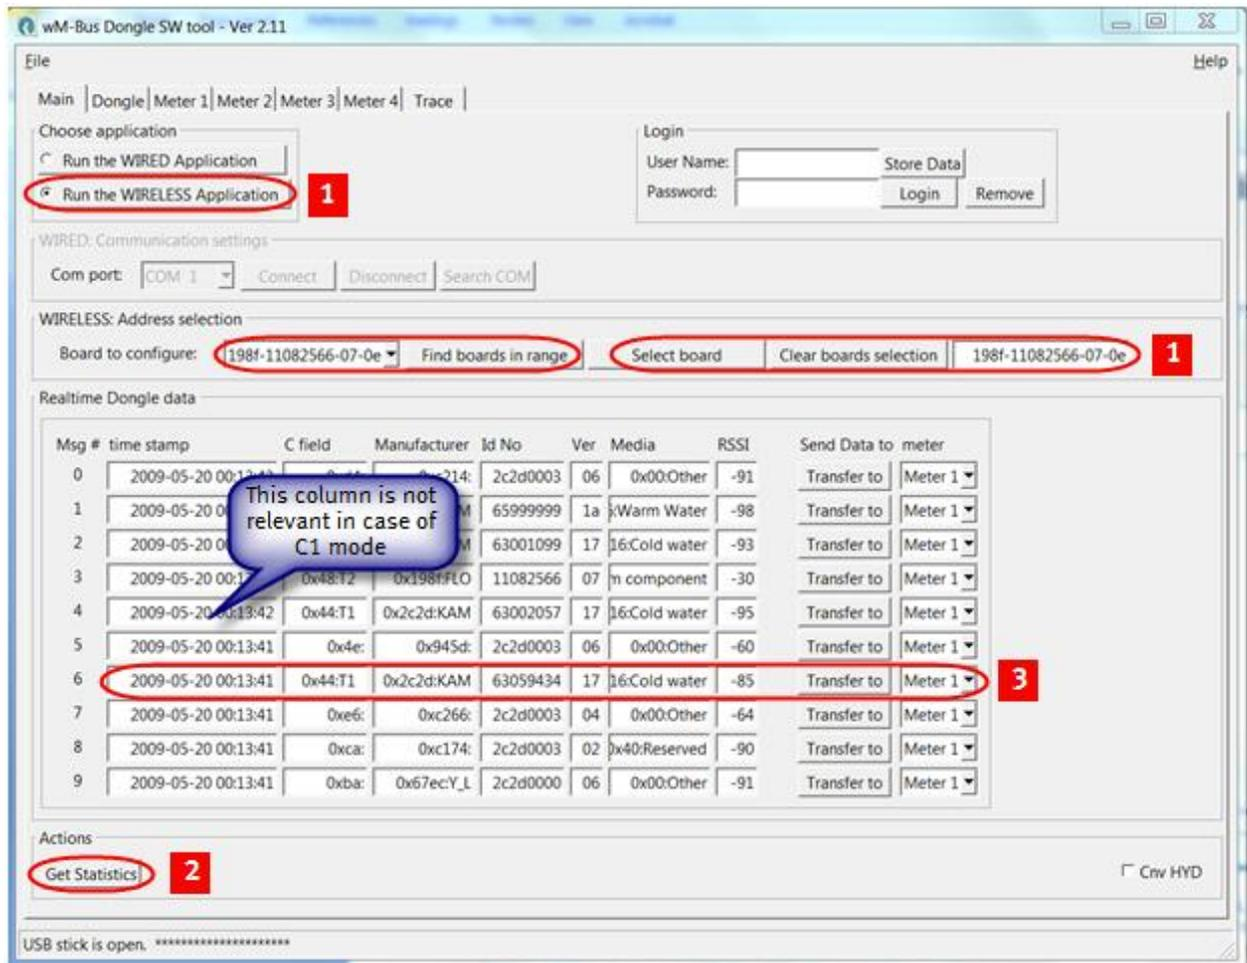

Figure 2
- 1** Connect the Dongle to a supply, either a wired bus or to 24 V DC, run the wM-Bus application, and click the [Run the WIRELESS Application] button (see Figure 2)
- 2** Search for wM-Bus meters (see Figure 2)
- 3** Choose the wM-Bus meters (see Figure 2)
Note: In Figures 2 and 3, all fields marked with red must be filled in.